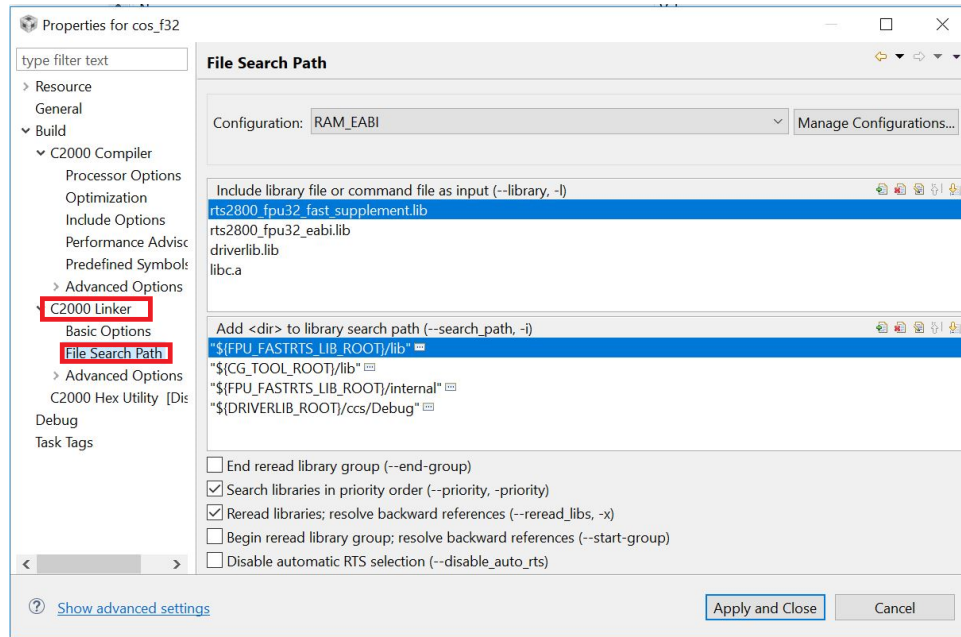
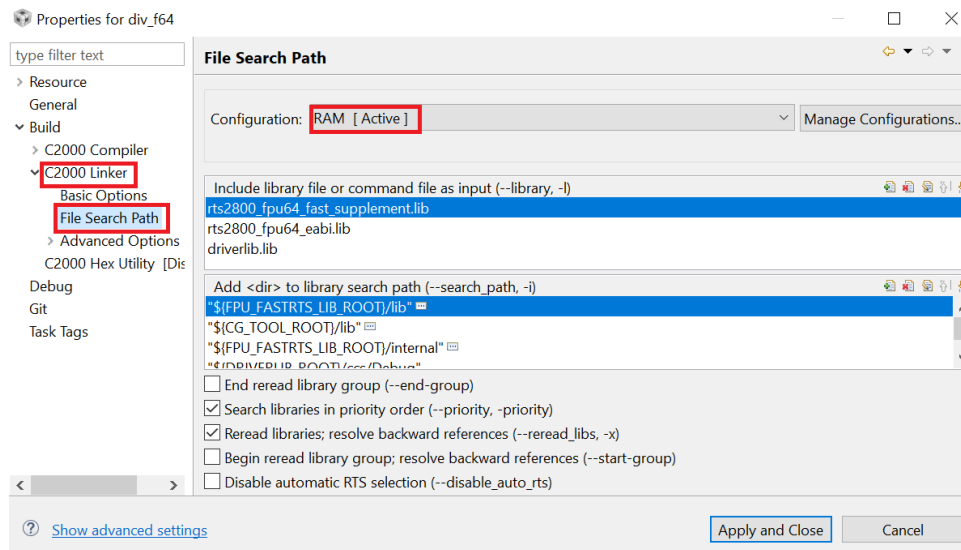
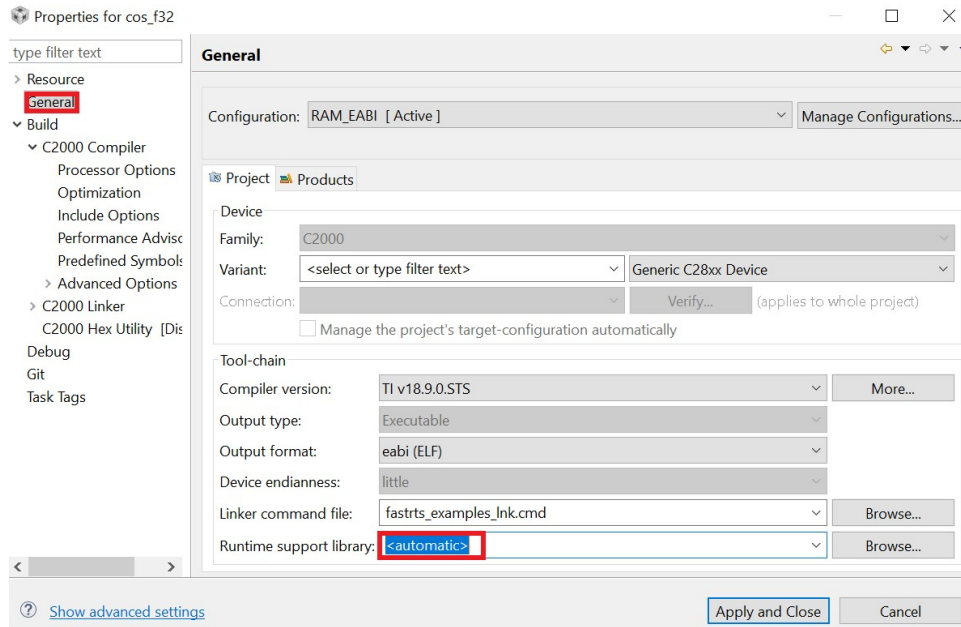

Figure 4.8: Adding the library and location to the file search path
Figure 4.9: Adding the library and location to the file search path
Figure 4.10: Selecting the Runtime Support Library
- Add the name of the library and its location to the **File Search Path** as shown in Figure 4.8 and Figure 4.9. For the single precision DSP library add `rts2800_fpu32_fast_supplement.lib`, and `rts2800_fpu64_fast_supplement.lib` for the double precision library.
- In the project properties clear the *Runtime Support Library* option, as shown in Figure 4.10, or set it to auto. If you wish to include one of the other run time support libraries in your project, add it from the *File Search Path* option, as shown in Figure 4.8 and Figure 4.9, and place the fastRTS library above the other RTS library and select the **--priority** check box to ensure the compiler pulls the math routines from the fastRTS but the support routines (like